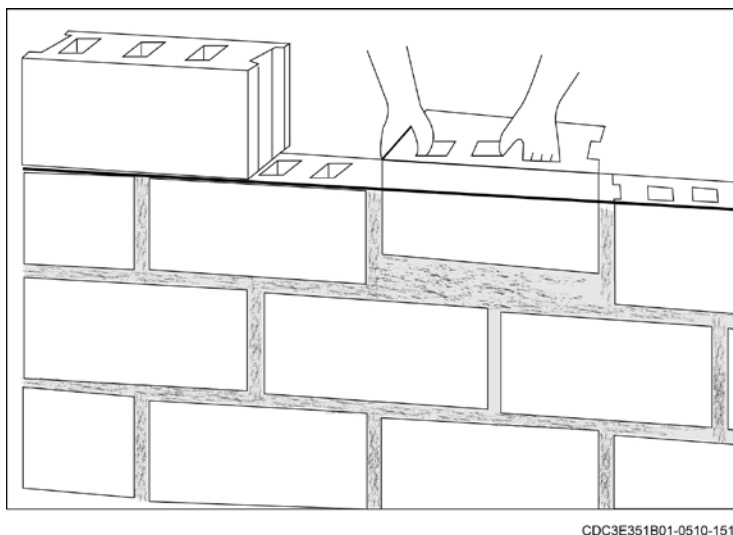

Figure 2-11. Laying block to the line.
2. Lay the top outside edge of each new block to this line (fig. 2-11). To grip the block, tip it slightly toward you so that you can see the edge of the course below. Then place the lower edge of the new block directly on the edges of the block below.